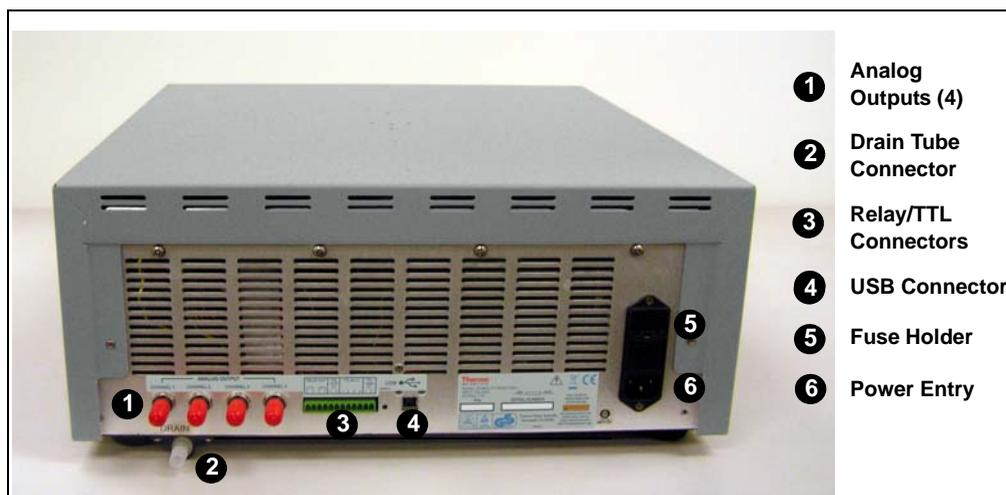

Figure B-3. Dionex PDA Rear Panel
Connect the waste line (P/N 055075) to the Dionex PDA rear panel (see Figure B-3). Place the free end of the waste line in a waste container below the level of the workbench on which the Dionex PDA is installed.
Connect a recorder, an integrator, or an A/D data acquisition device to the **ANALOG OUT** connector on the Dionex PDA rear panel (see Figure B-3). The four Dionex PDA analog outputs provide a 1 volt output maximum.
2. Connect a modular power cord (IEC 320 C13) from the Dionex PDA main power receptacle (see Figure B-3) to a grounded, single-phase power source. The power supply is auto-sensing: No adjustment is needed to select the line voltage.